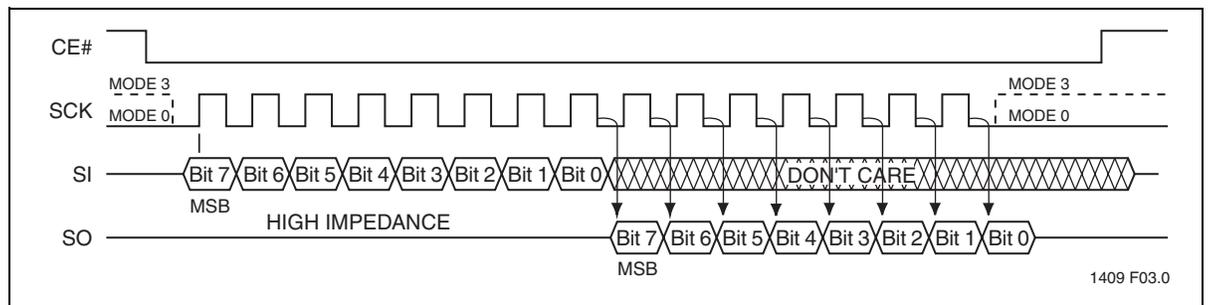
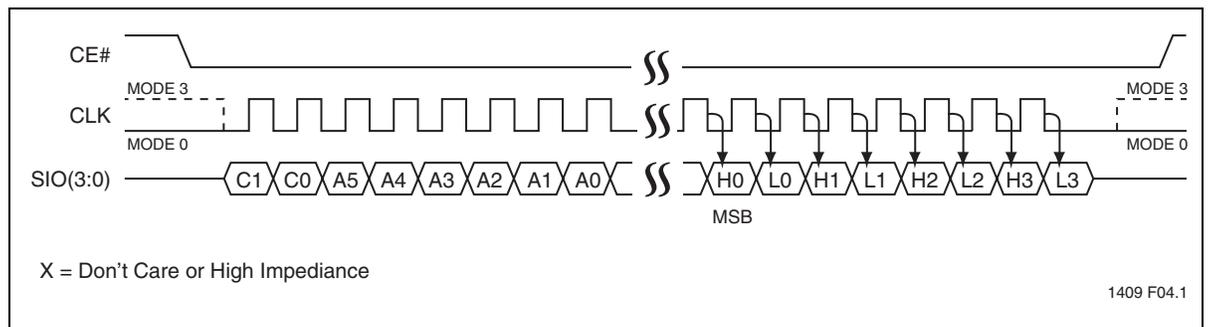

Figure 4: SPI Protocol (Traditional 25 Serial SPI Device)
Figure 5: SQI Serial Quad I/O Protocol
SQI Flash Memory protocol supports both Mode 0 (0,0) and Mode 3 (1,1) bus operations. The difference between the two modes, as shown in Figures 4 and 5, is the state of the SCK signal when the bus master is in Stand-by mode and no data is being transferred. The SCK signal is low for Mode 0 and SCK signal is high for Mode 3. For both modes, the Serial Data I/O (SIO[3:0]) is sampled at the rising edge of the SCK clock signal for input, and driven after the falling edge of the SCK clock signal for output. The traditional SPI protocol uses separate input (SI) and output (SO) data signals as shown in Figure 4. The SST26WF032 uses four multiplexed signals, SIO[3:0], for both data in and data out, as shown in Figure 5. This quadruples the traditional bus transfer speed at the same clock frequency, without the need for more pins on the package.